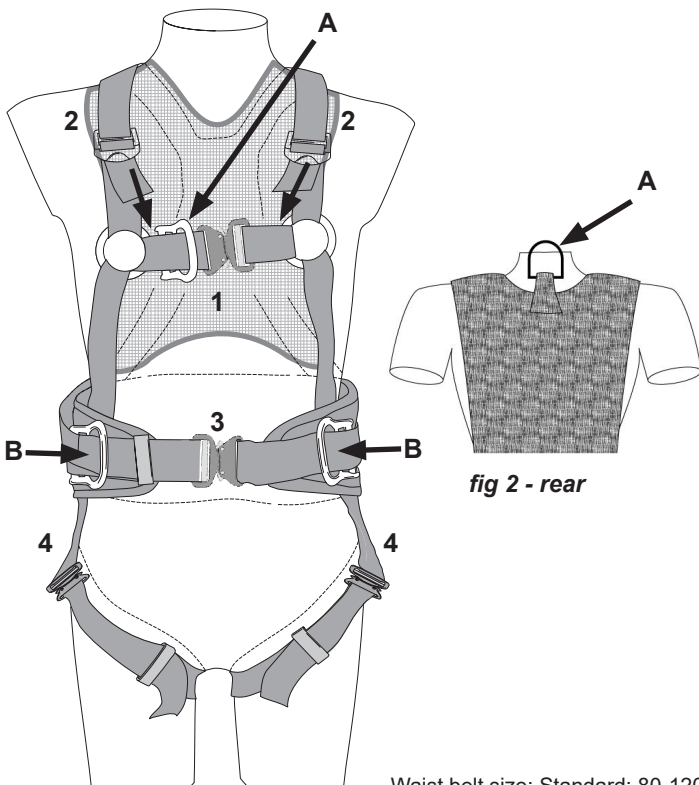

fig 1 - front
Open leg buckles and then put on harness as a jacket. Fasten chest, waist and leg buckles, then adjust all buckles to fit, these are shown in Figure 1; Chest (1), Shoulder (2), waist (3), and Leg (4).
These are marked in figures 1 & 2 with: